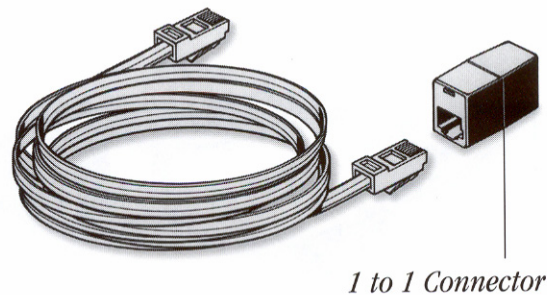

Figure 7. Extension loom and terminal connector
1. Locate the topside control panel extension loom in the control box mounted with the equipment pack. This extension loom and attached black terminal connector (Figure 7) will be used to connect the topside control panel to the control box.